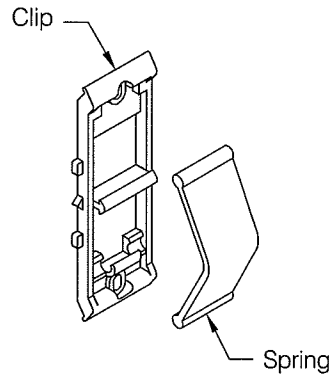
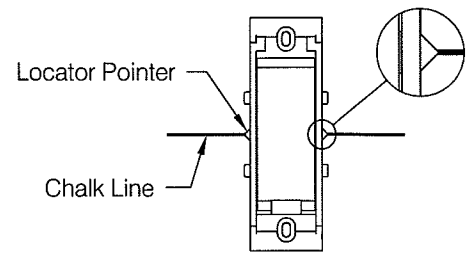
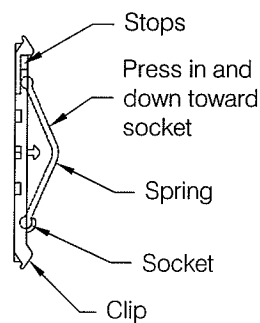

fig 2
fig 3
fig 8
Step 2: Each Quik Clip retainer consists of a base or "Clip" and an impact cushion or "Spring" shipped separately, see **fig 2**. Secure clips to wall by aligning the molded location pointers in the clip with the chalk line, see **fig 3**. While the clip may be installed either end up it is recommended that the spring socket be oriented down, see **fig 8**.
Note: Install spring by snapping ball of spring into socket provided in clip. The easiest method is to locate the ball opposite the socket against the "stops" provided in the clip and snap the ball into the socket by pressing the crown of the spring both down and toward the socket, see **fig 8**.